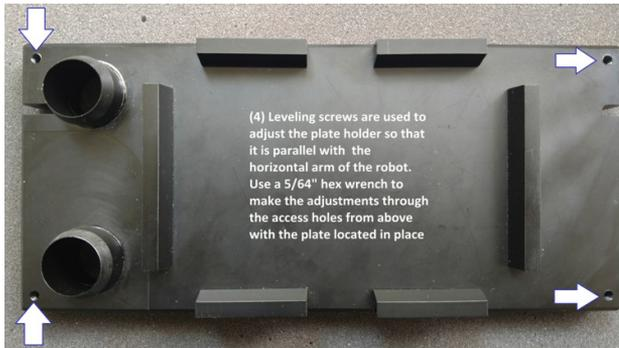

Fig. 49 — Leveling screws are located on the four corners of the well plate holder.
When adjustments are complete, the well plate holder must be stable (no rocking). The location of the (4) adjustment screws is shown in Fig. 49 on page 37. If desired, Loctite 222 (WPI# **7004**) may be used to secure the adjustment (Fig. 50).